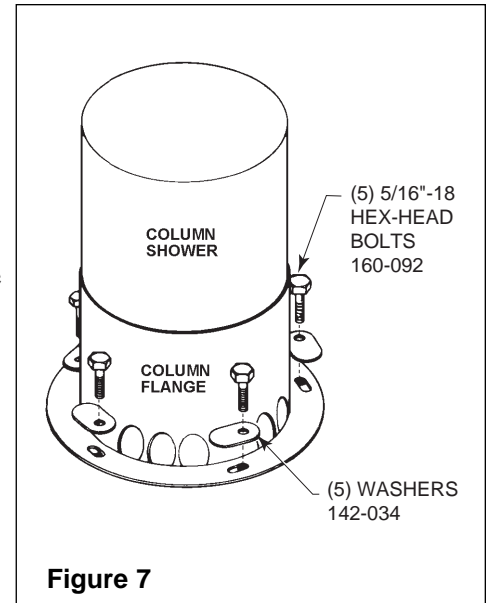

Figure 7
2. Bolt the shower to the drain with the five bolts (removed in procedure #1) and oval washers provided (see Figure 7).